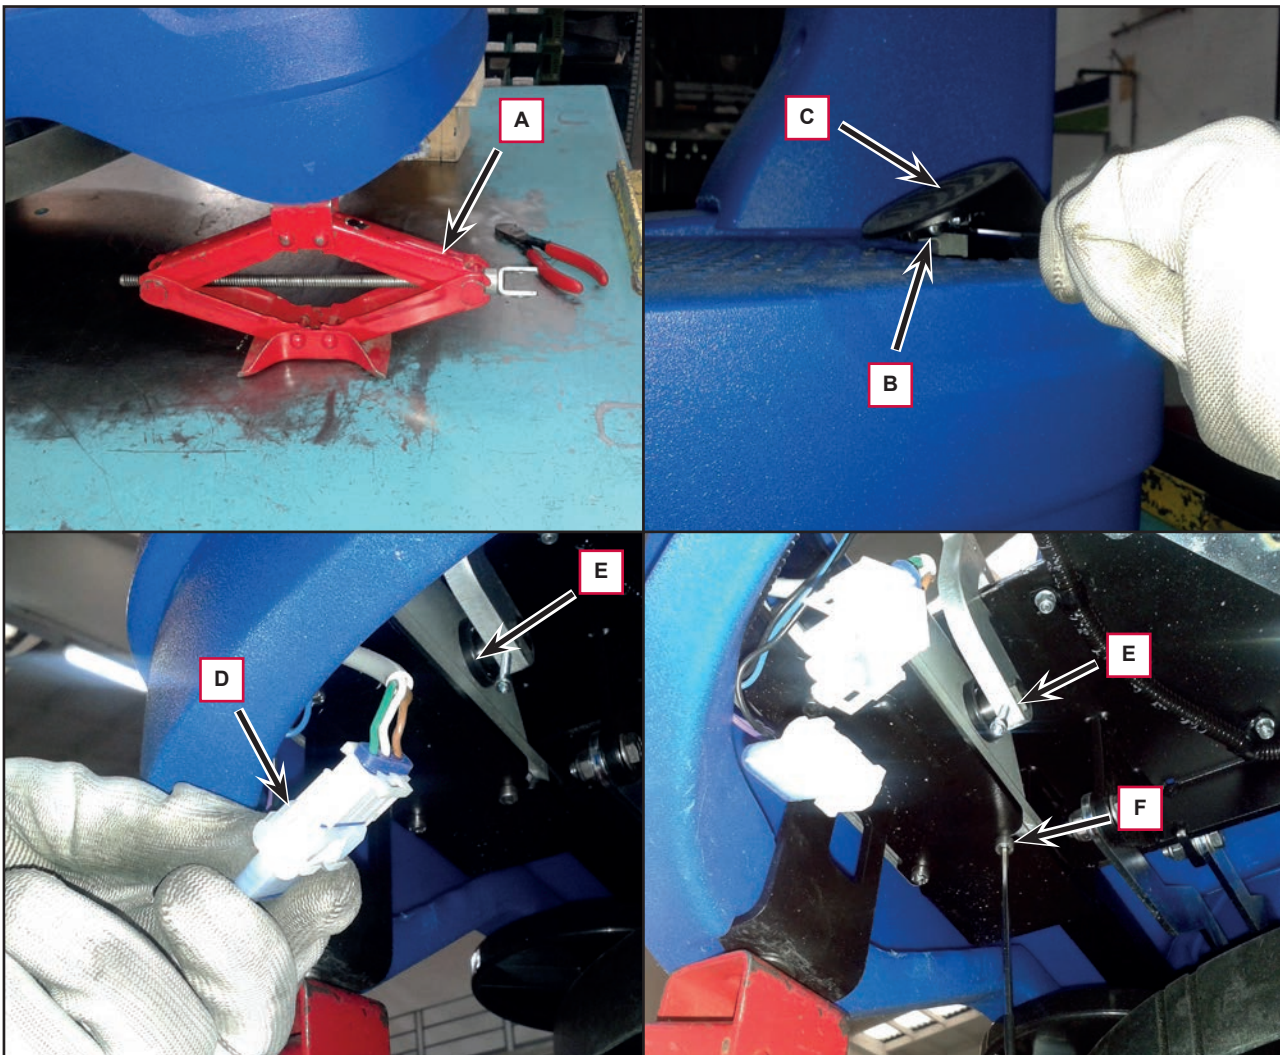

Figure 5
3. Lift the machine as shown (A, Figure 5).
4. Remove the 2 screws (B) and disassemble the accelerator pedal (C).
5. Under the machine disconnect the connection (D) of the drive pedal potentiometer (E).
6. Remove the 3 screws (F), then disassemble the drive pedal potentiometer (E).